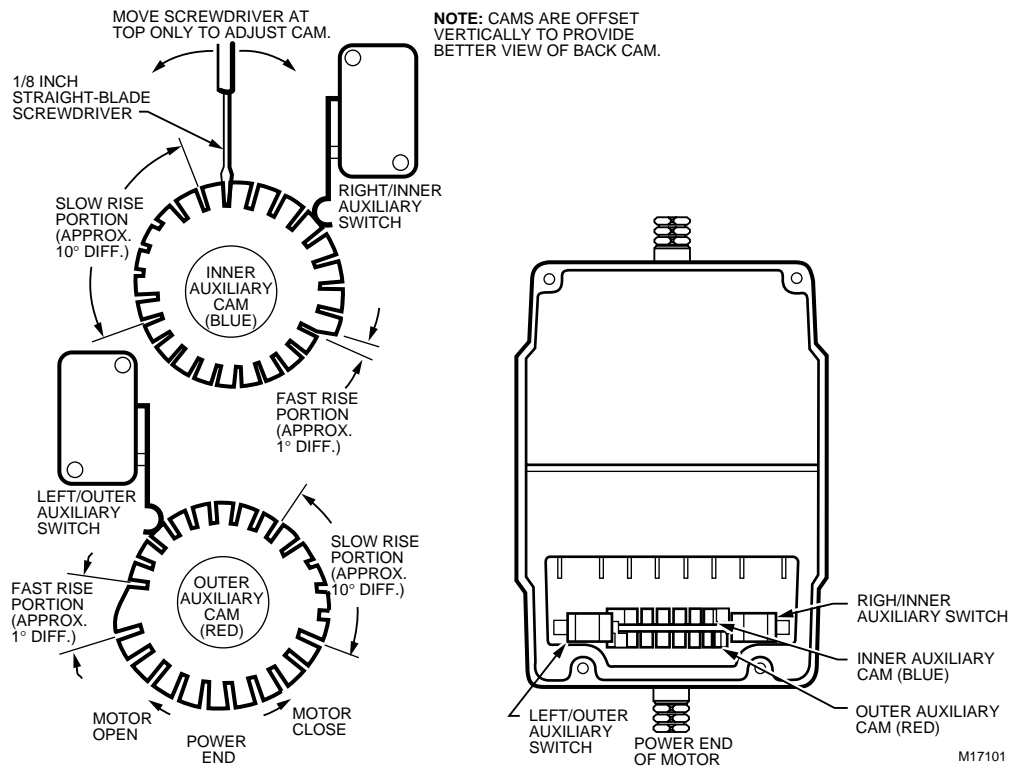

Fig. 12. Auxiliary switch adjustment.
- Insert 1/8 in. screwdriver blade into a slot on cam and move the top of the screwdriver as far as possible in the required direction. See Fig. 12.